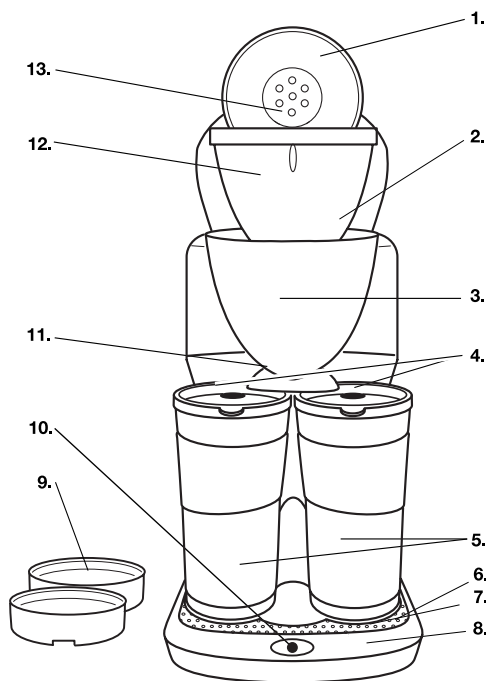
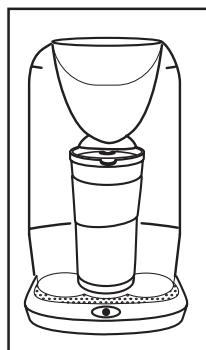
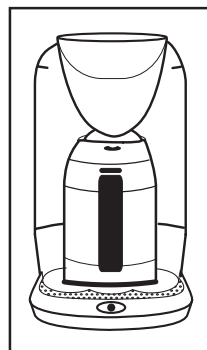

FIGURE 1
FIGURE 3
FIGURE 4
NOTE: You can brew either one Thermal Mug or two Thermal Mugs or the Thermal Carafe at once. Place Thermal Mugs snugly on Base/Drip Tray of unit as shown in Figure 1 (for two Thermal Mugs) or Figure 3 (for one Thermal Mug) or Figure 4 (for Thermal Carafe). Use the contoured design on the Drip Tray as a guide for Thermal Mug/Carafe alignment.
NOTE: *When using the Thermal Carafe, it is necessary to place the Thermal Carafe onto the Base/Drip Tray with the Handle facing outward, towards you.* (See Figure 4.) Make sure the Carafe is seated properly onto the Base/Drip Tray under the Flow Nozzle.
2. Adjust the Mug/Carafe Dial; then place both Thermal Mugs or the Thermal Carafe in proper position on the Base/Drip Tray of the unit. When using the Thermal Carafe, make sure that the Handle is facing outward, towards you. (See Figure 4.)